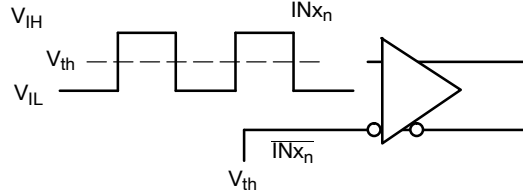

Figure 5. Differential Input Driven Single-Ended
DIFFERENTIAL INPUT DRIVEN SINGLE-ENDED (Note 6) (Figures 5 and 6)
8. Differential 50% duty cycle at $V_{INPPmin}$ clock source. Outputs evaluated with 50 Ω resistors to $V_{TT} = V_{CC} - 2.0$ V (See Figure 16). Input crosspoint to output crosspoint for INxn/INxn̄ to Qx, Qx̄; 50% input to output crosspoint for SELx to Qx, Qx̄. See Figures 5, 10 and 11.